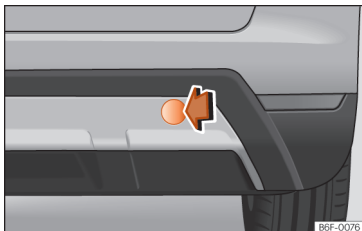

Fig. 48 On the right side of the rear bumper: remove the cover.
The housing of the screw towing eye is on the right side of the rear bumper behind a lid »» **Fig. 48**.
- Press the right hand side of the cover »» **Fig. 48** to unclip it.